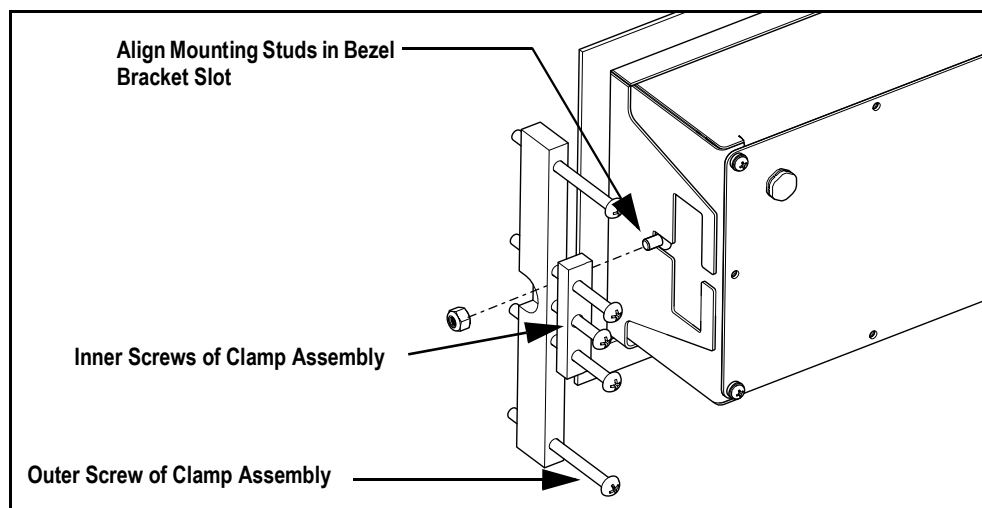

Figure 5. Install Indicator
10. Tighten the inner screws of the clamp assembly (see Figure 5), engaging the clamp bar in the bezel bracket while the indicator presses tight against the inner bezel gasket.